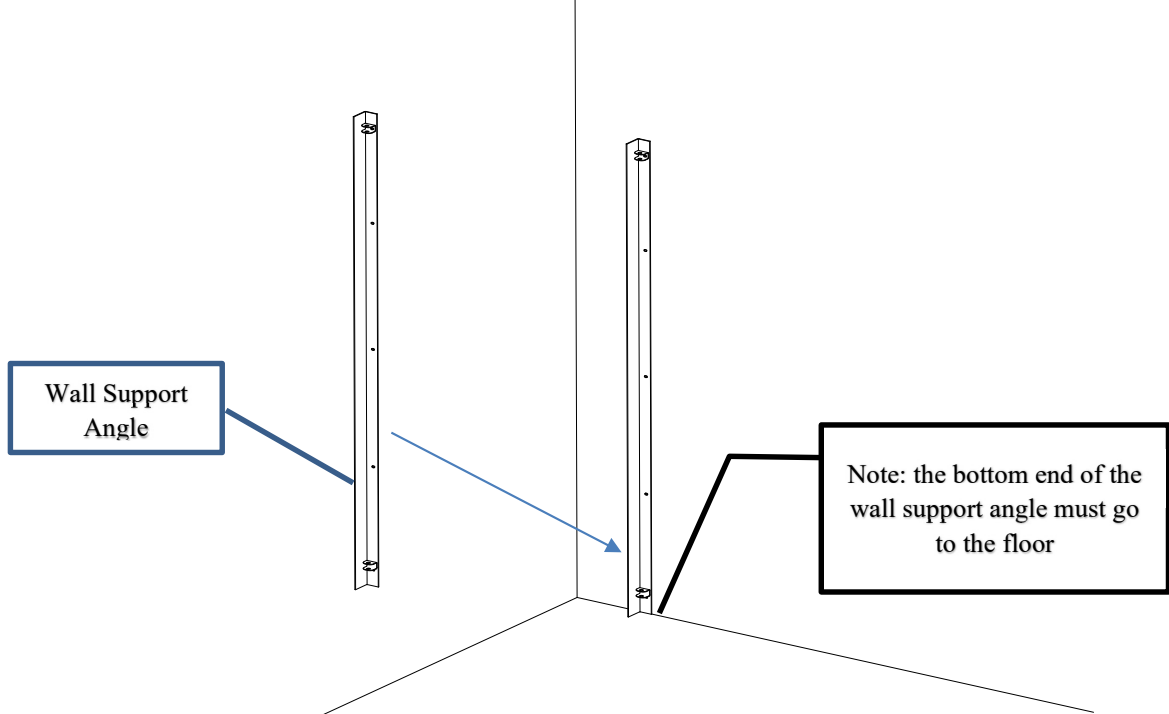

Figure 3
3. **Note: this system is not compatible with floor coves. If the wall you are mounting the system to has coving, it must be cut away for the system to be installed. The “wall support angles” must go all the way to the floor. See figure 3.**